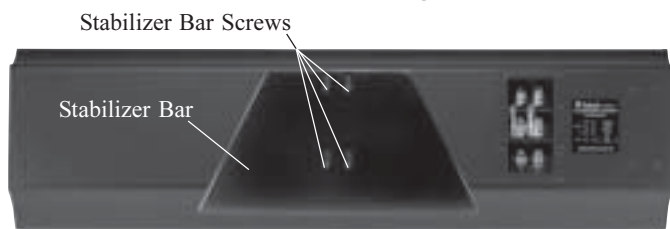

Figure 14
the back of the XR27 Loudspeaker System. Refer to figure 14.
1. Remove the four screws securing the Stabilizer Bar to the back of the XR27 Loudspeaker System. Refer to figure 14.
1. Remove the four screws securing the Stabilizer Bar to the back of the XR27 Loudspeaker System. Refer to figure 14 on page 8.